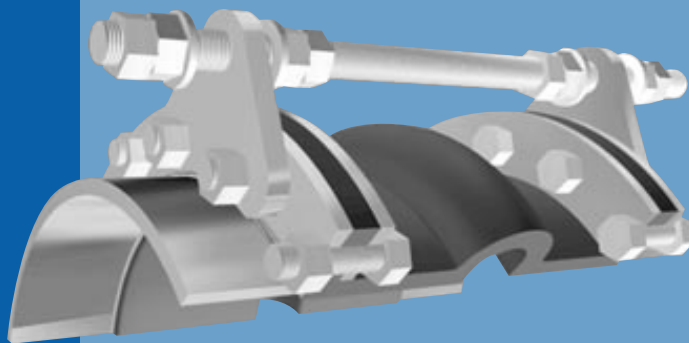

Figure 2: Control Rod
Figure 2 — Known as a “CONTROL ROD”, this control unit configuration is used to allow specified pipe expansion (expansion joint axial compression) and pipe contraction (expansion joint axial extension) movements. Nuts shall be field set to no more than the maximum allowable extension or compression of a rubber expansion joint. Refer to Tables 2, 3 or 4 in this Manual.
1. Control rod plate O.D. installed dimension is based on a **maximum** O.D. PROCO would supply. (Figures 2 and 3.)